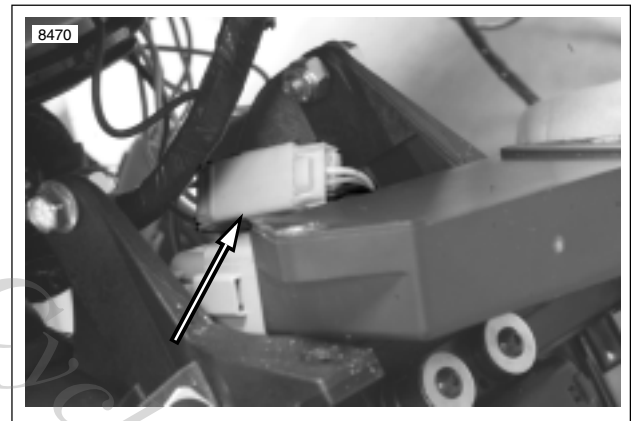

Figure 2-103. Headlight Connector
- a. Loosen headlamp pivot fasteners (1).
- b. Rotate headlight bracket (2) down.
6. See Figure 2-103. Disconnect headlight connection.
- See Figure 2-103. Attach headlight connector to headlight support bracket.